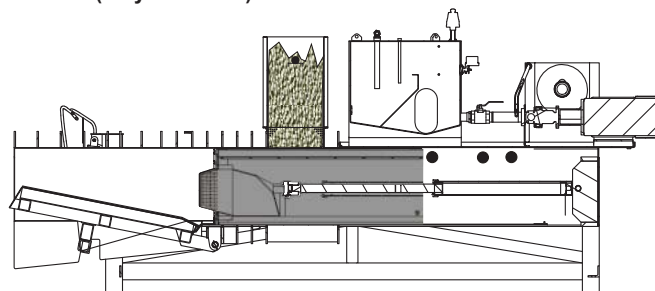

Figure 24. Product Reaches Level Detector
2. **MATERIAL REACHES LEVEL DETECTOR** The level detector (see “Level Detector Adjustments” on page 15) will send a signal to the system controller when PROX 1 has been activated by product being sensed for more than 1 second (see Figure 24). The plunger will retract according to PRODUCT DELAY pot #1 (see “Potentiometer” on page 14 for adjustments). When the plunger activates PROX 4, the plunger speed is reduced.